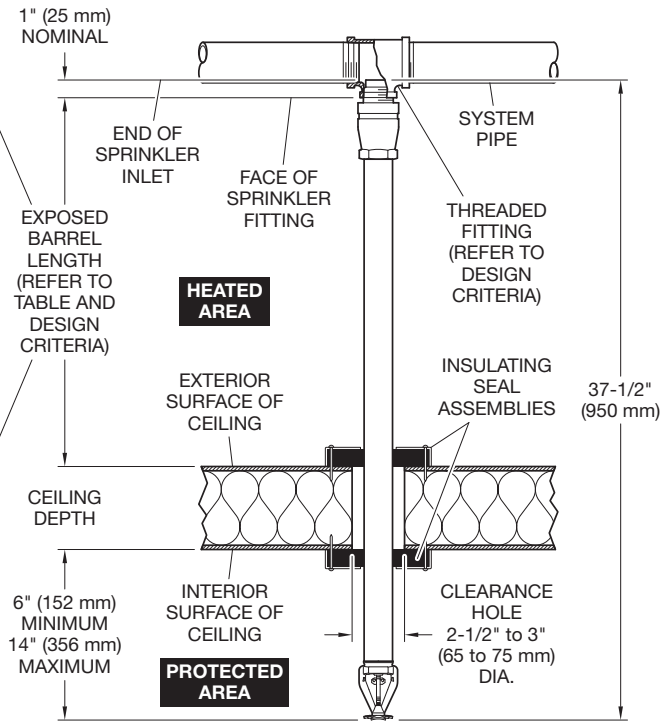

FIGURE 3
When using Model ESFR-17 Dry Type Sprinklers to protect areas subject to freezing temperatures, use Figures 3 and 4 to determine a sprinkler's appropriate exposed barrel length to prevent water from freezing in the connection pipes due to conduction. The exposed barrel length measurement must be taken from the face of the sprinkler fitting to the exterior surface of the structure or insulation that is exposed to the heated area.
Step 2. Install the Model ESFR-17 Dry Type Pendent Sprinkler in the pendent position (Figure 3) by carefully raising the pendent sprinkler through the clearance hole. The deflector of the pendent sprinkler is to be parallel to the ceiling.